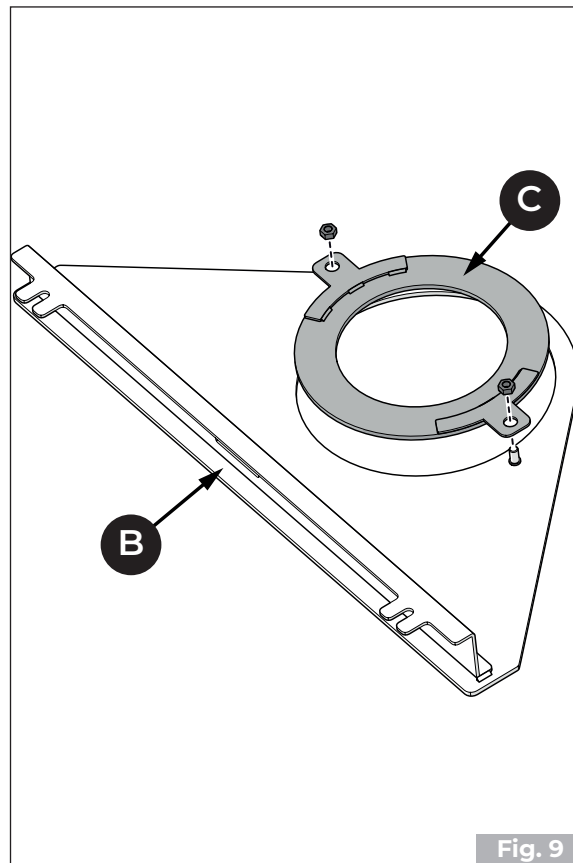

Fig. 9
- Rotate the top **(B)** and remove the support **(C)** (**Fig. 9**)